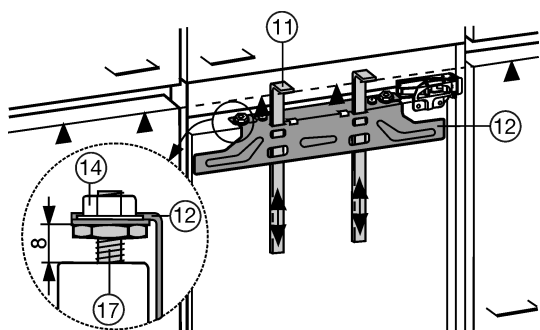
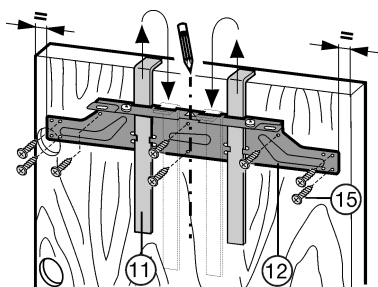

Fig. 22
Fig. 23
- ▶ Push up assembly aids Fig. 22 (11) to unit door height. Lower edge ▲ of the assembly aid = top edge of the unit door to be fitted.
- ▶ Unscrew fastening crosspiece Fig. 23 (12) by undoing the locknuts Fig. 22 (14).
- ▶ Attach the fastening crosspiece using Fig. 23 (12) the assembly aids Fig. 23 (11) to the inside of the unit door.
- ▶ Centre the fastening crosspiece Fig. 23 (12): mark a short centre line on the unit door and put the tip of the arrow on the crosspiece above it.
- ▶ secure fastening crosspiece Fig. 23 (12) with at least 6 screws.
- ▶ secure fastening crosspiece Fig. 23 (12) with 4 screws at the edge.
- ▶ Raise the assembly aids Fig. 23 (11) for removal, turn them and insert them into the adjacent openings.